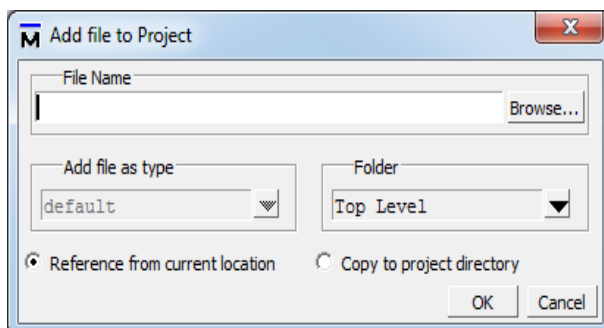

Figure 4.3 Add file to Project Window
- After that one window will appear named 'Add file to Project' as figure 4.3 and click 'Browse'.